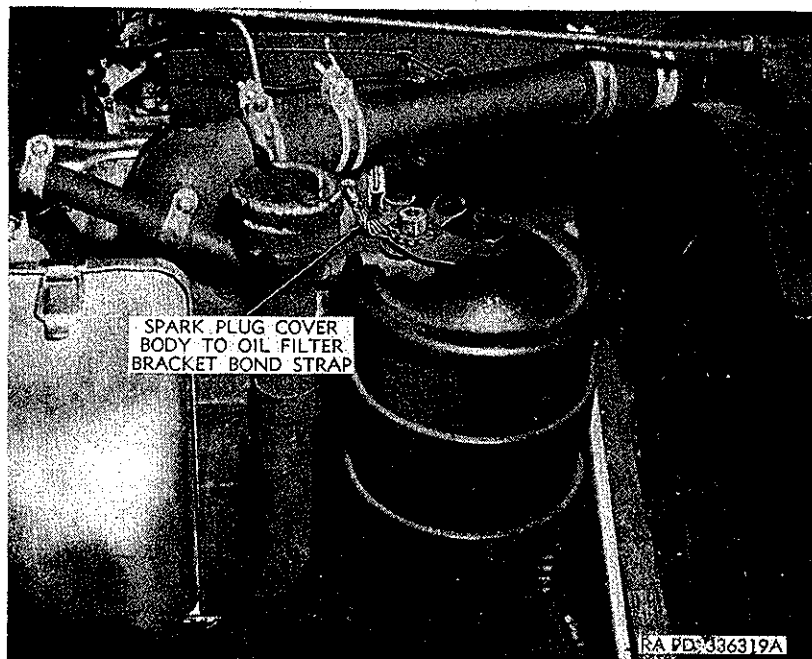

Figure 4. View showing installation of bond strap to engine.
(34) Drill a  $\frac{1}{4}$ -inch hole in the front right side of the spark plug cover body assembly 7058923 and install a  $\frac{1}{4}$ -inch bolt in hole.
(35) Attach one end of bond strap to bolt just installed, using internal-external-tooth lock washers and nut, and attach other end of bond to stud that is part of oil filter bracket. Tighten bolt and stud securely (fig. 4).
(36) Drill a  $\frac{1}{4}$ -inch hole in the lower right-hand corner of the